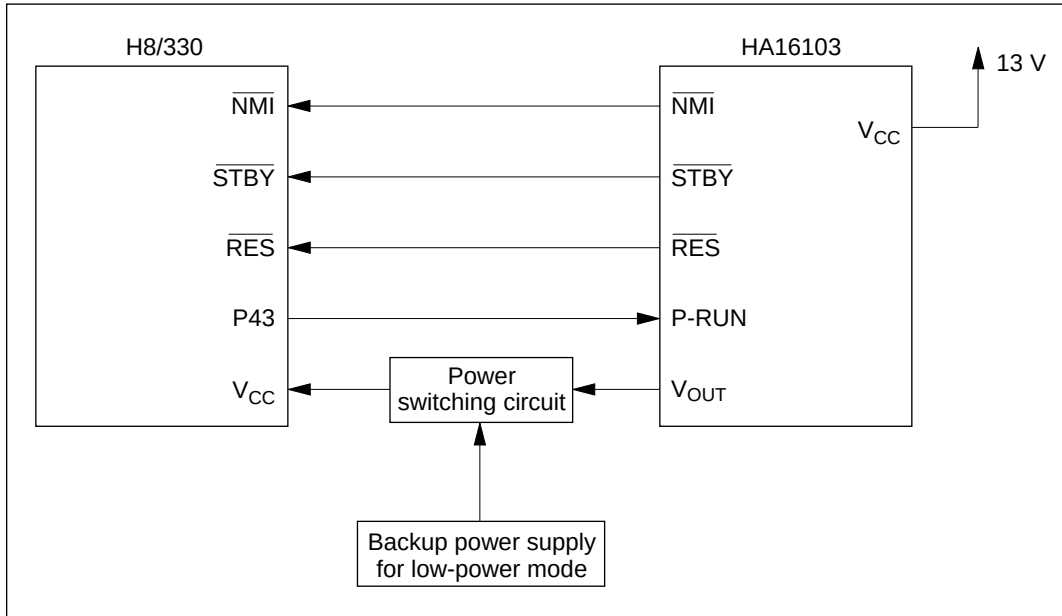

Figure 1 H8/330-HA16103 Interface Block Diagram
1. The H8/330 is interfaced to a microcomputer system power controller IC (HA16103) as shown in figure 1.